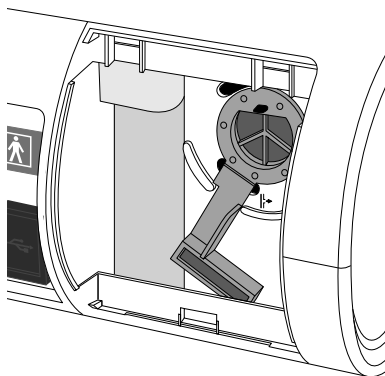

Fig. 13: Switching to valve tube system
- For the use of a valve tube system, place the switch, by gently lifting and turning, into the lower position (see Fig. 13).